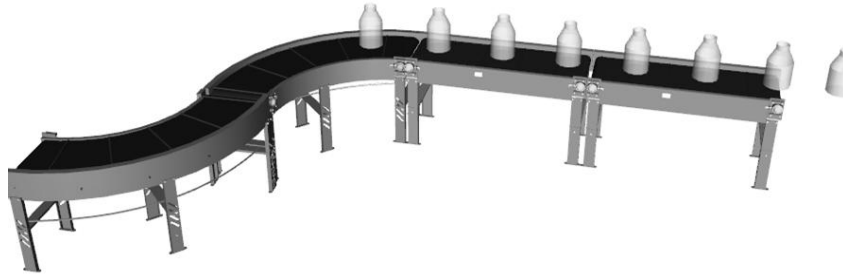

Figure L6.8 - Conveyor with Empty Bottles
5. Duplicate the Empty Bottle seven times so that there are 8 empty bottles all together. Place these bottles on the conveyor as shown in Figure L6.8.